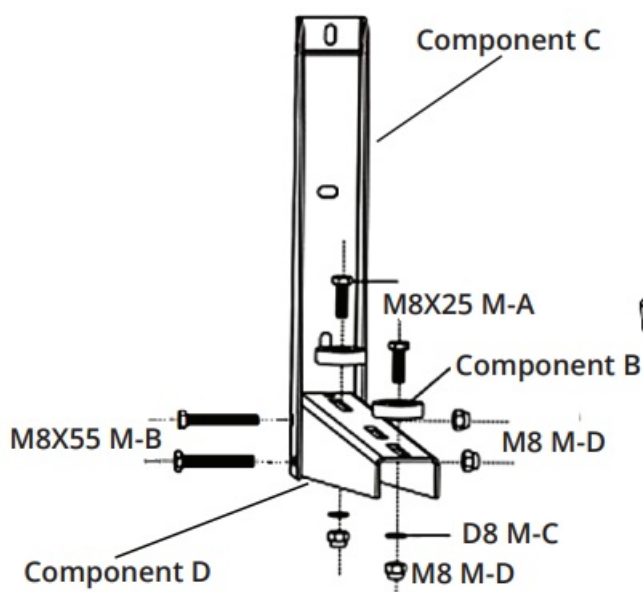

Fig. 2.1
1. Take one of component C and one of component D. Using Fig. 2.1 below as a guide, stand component C upright and insert component D into the bottom of component C. Make sure to align the four bolt holes (two on each side) at the bottom component C with the corresponding holes of component D. Component C and component D should be perpendicular from one another creating an “L” shape.
4. Next, take two bolts (component M8x25 M-A) and place washers (component B) onto them. Then, insert the bolts with washers into the front and rear slide holes on the top of component D. Next, put washers (component M-C) on the ends of each bolt and then secure with nuts (component M-D). DO NOT overtighten the nuts. Please refer to Fig. 2.1.